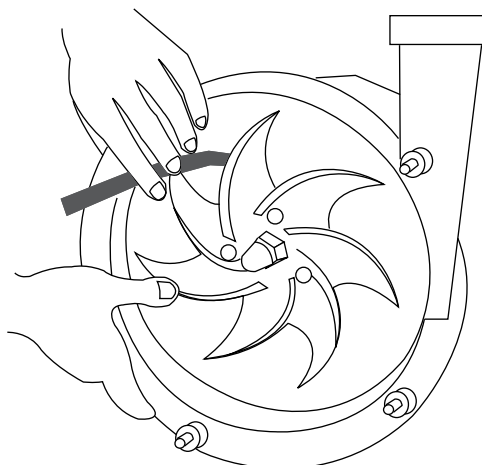

Fig. 25 Clearance between impeller and pump casing
- Measure the clearance between the pump casing and the impeller. See Fig. 25 "Clearance between impeller and pump casing", page 18.
1. Measure the clearance between the impeller and the pump casing with a feeler gauge, see *Fig. 25 "Clearance between impeller and pump casing", page 18*.